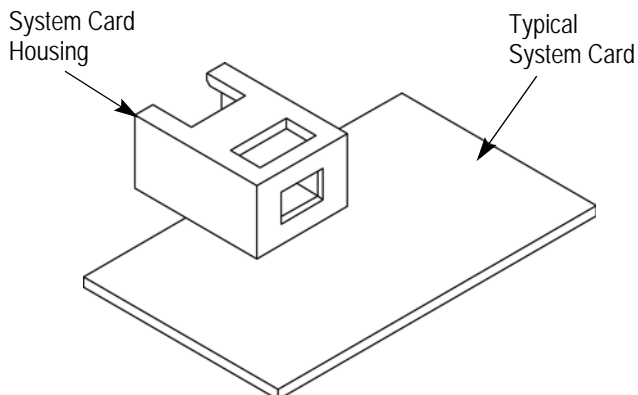

Figure 3
1. Remove the system card connector being used in application from the system card housing and store the connector, covered, in a safe manner. See Figure 3.